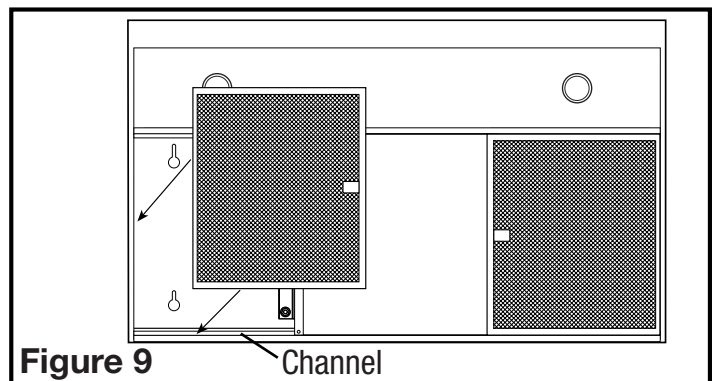

Figure 9
3. Reinstall the filters by fitting them into the channel on either side of the hood and pushing upwards on them until they are secured in place (Figure 9).